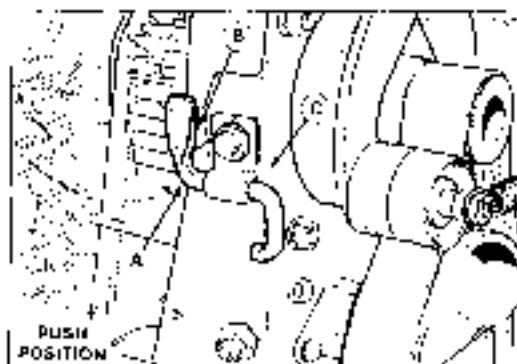
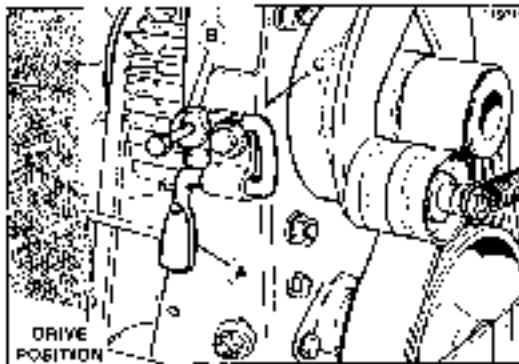

Figure 7. Hydro Release Valve Engaged
Figure 8. Hydro Release Valve Disengaged
1. To disengage, grasp lever (A) shown in Figure 7, pull toward left to lower section. When pump bracket (C) has moved down, lever must move right so it is secured in position shown in Figure 8.
1. To engage, grasp the lever (A, figure 8), pull forward to clear pump bracket (C), and then flip up to depress plunger (B) forward right so it sticks in position shown in figure 7.